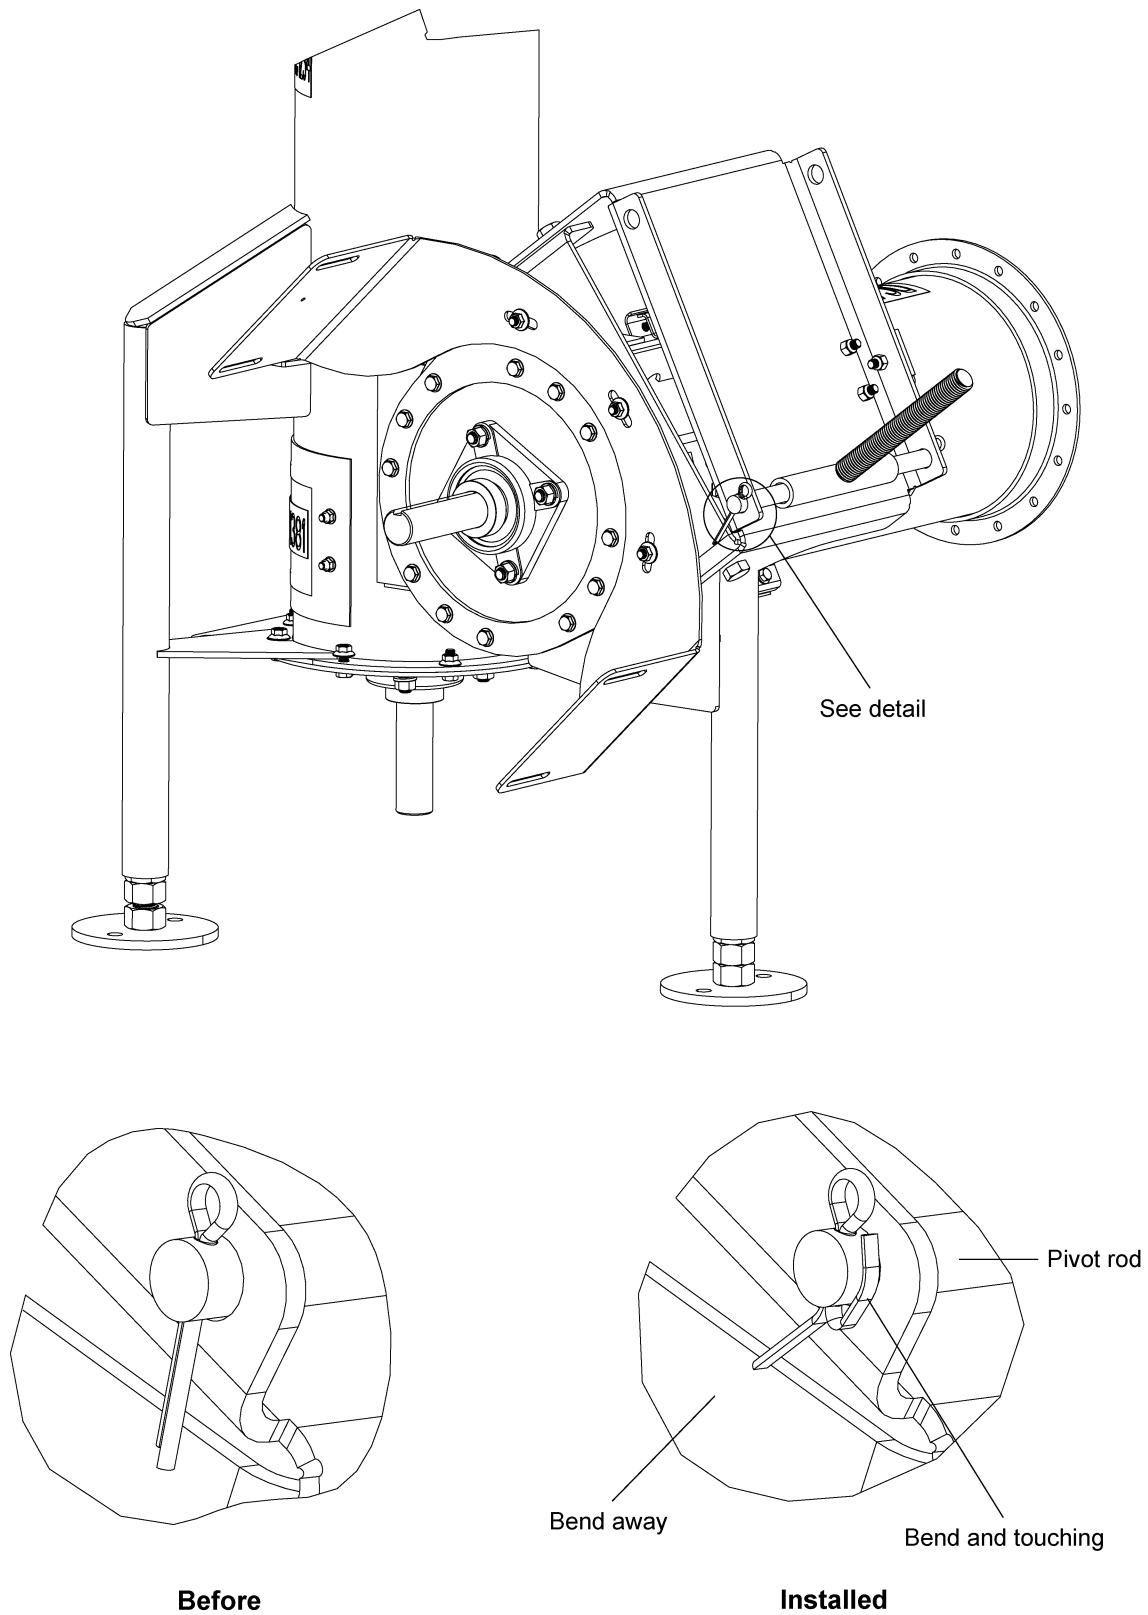

Figure 4Q
3. With the cotter pins in the pivot rod, bend one tab of the cotter pin back so that it touches the pivot rod and bend the other tab of the cotter pin away from the first tab. (See Figure 4Q on Page 21.)